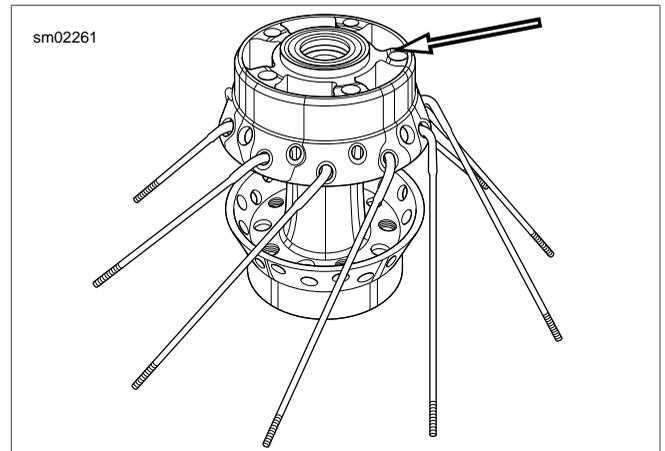

Figure 2-16. Hub: Primary Brake Disc Side Up
1. See Figure 2-16. If front wheel, place hub on table with wider flange side up. If rear wheel, place hub on table with narrow flange (brake disc side) up. Insert a spoke in each hole of **lower** row as shown in the figure. Angle spokes clockwise.